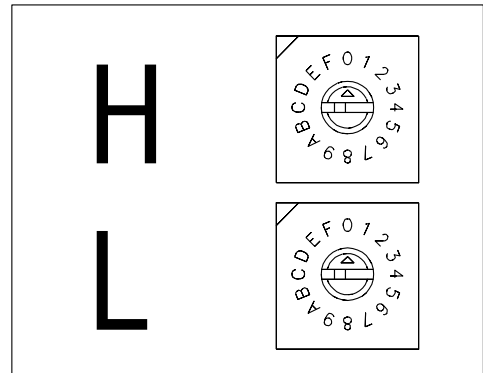

Figure 8: Driver Address Dials
Addresses are set through the S2 (L) and S3 (H) rotary switches on the driver (**Figure 8**) using a small flathead screwdriver.